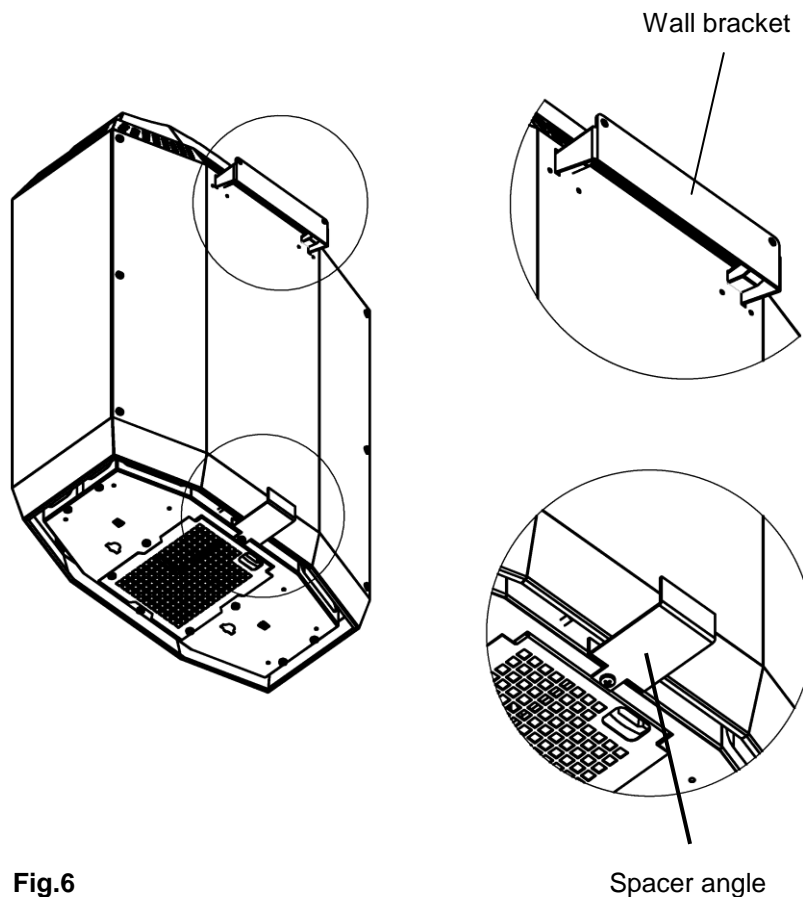

Fig.6
- To mount the spacer angle, unscrew the screw from the floor plate and screw fasten the spacer angle at this position (see Fig.6).